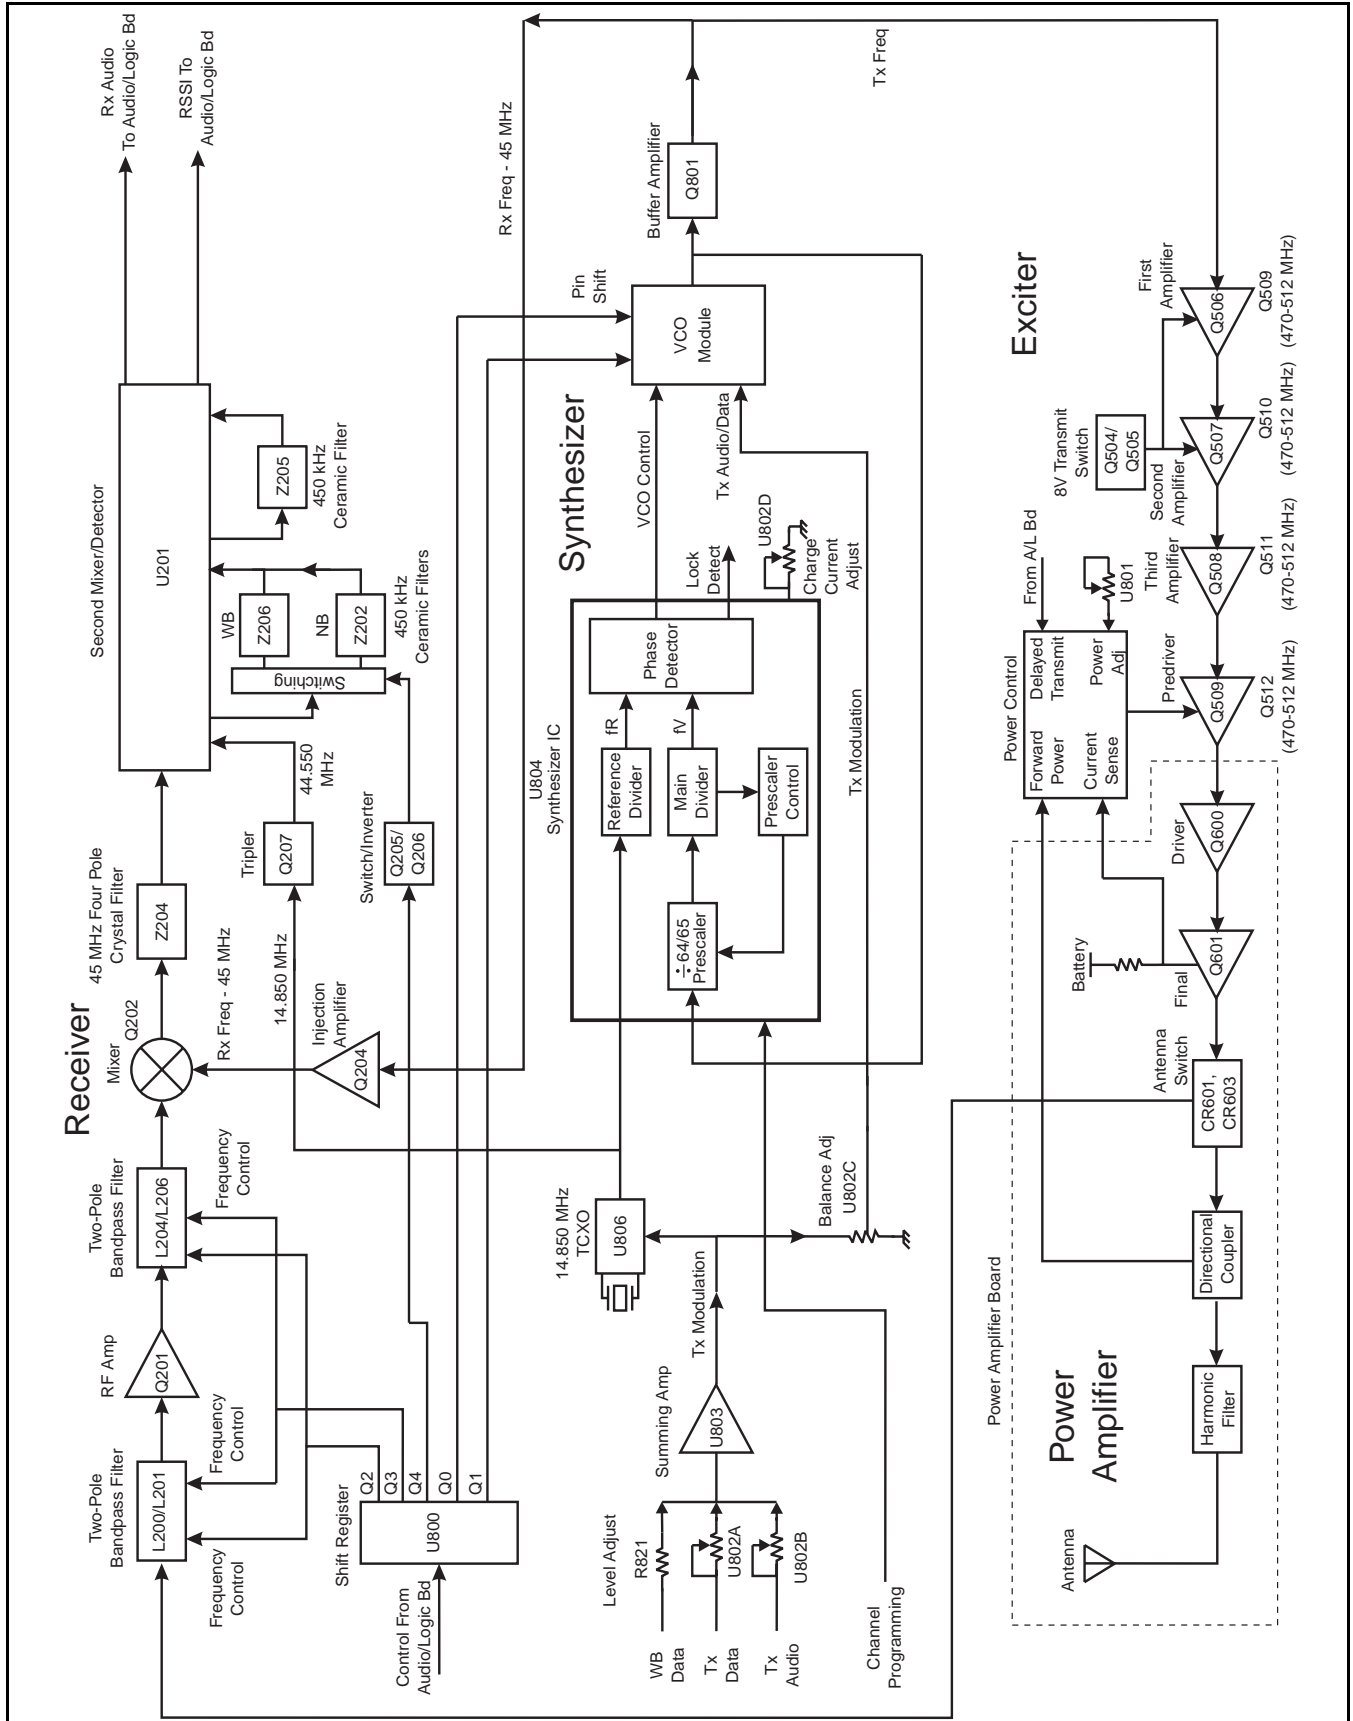

Figure 5-7 RF Block Diagram (800/900 MHz Models)
The synthesizer block diagram is part of the RF/PA board diagram shown in Figure 5-7. The synthesizer output signal is produced by a VCO (Voltage Controlled Oscillator) located on a separate module attached to the RF board. The frequency of the VCO is controlled by a DC voltage from the phase detector in synthesizer integrated circuit U804.
The levels of the audio and data signals are set by digitally controlled variable resistors in U802. These resistors are adjusted in 256 steps by serial data from the microcontroller (see Section 5.3.1). The transmit audio signal is applied to pins 2 and 4 which are the wiper and one end of a potentiometer. It is fed out on pin 3 which is the other end of the potentiometer (see Figure 5-7). Likewise, the data signal is fed in on pins 22 and 24 and out on pin 23. These variable resistors set the modulation level of the audio and data signals and also allow the microcontroller to provide frequency compensation. This compensation is required because modulation tends to increase as the VCO frequency increases (tank circuit capacitance decreases).
*NOTE: The receiver block diagram is in Figure 5-7.*